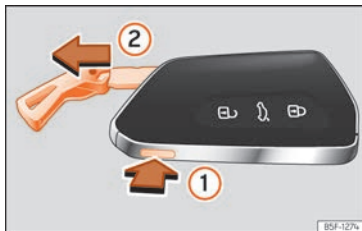

Fig. 82 Vehicle key: remove the key blade.
- If you press button »» **Fig. 82 ①** once the key blade is unlocked and a ring appears as a key ring.
- Press and hold the button **①** and at the same time pull on the ring in the direction of arrow »» **Fig. 82 ②** to completely remove the key blade.